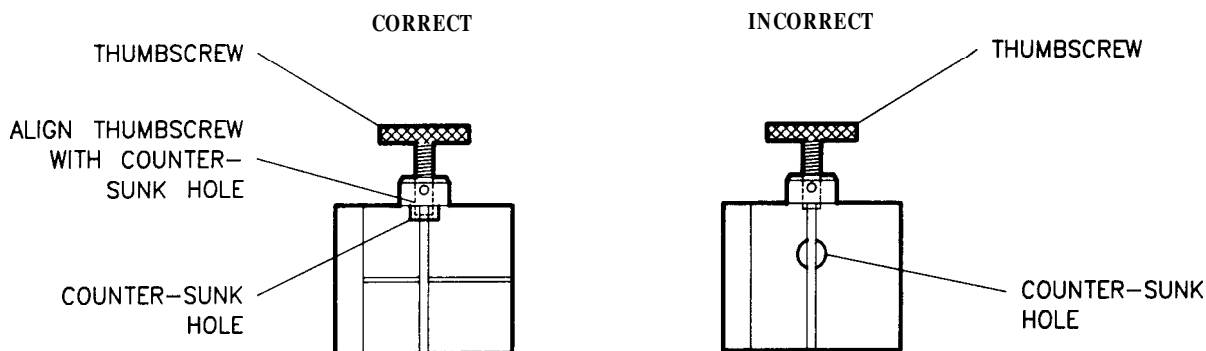

Figure 3-9. Aligning the Thumbscrew With the Counter-bored Hole
- See Figure 3-9. Make sure that the thumbscrew is aligned with the counter-sunk hole in the clamp body. Push the clamp toward the test set front panel and then tighten the thumbscrew with your fingers. The cable cannot be damaged by tightening the thumbscrew too tightly.